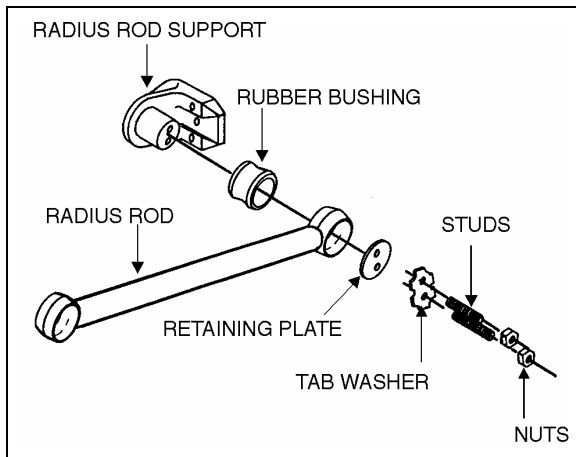

FIGURE 9: TYPICAL RADIUS ROD SETUP 16010
- Flatten the tab washer which secures the two retaining nuts (or bolts), then unscrew the nuts (or bolts) at each extremity of the radius rod (Fig. 9).